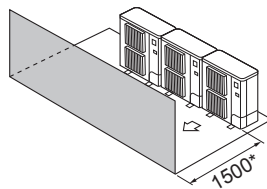

Fig. 5-11
- ③ Obstacles at front only (Fig. 5-11)